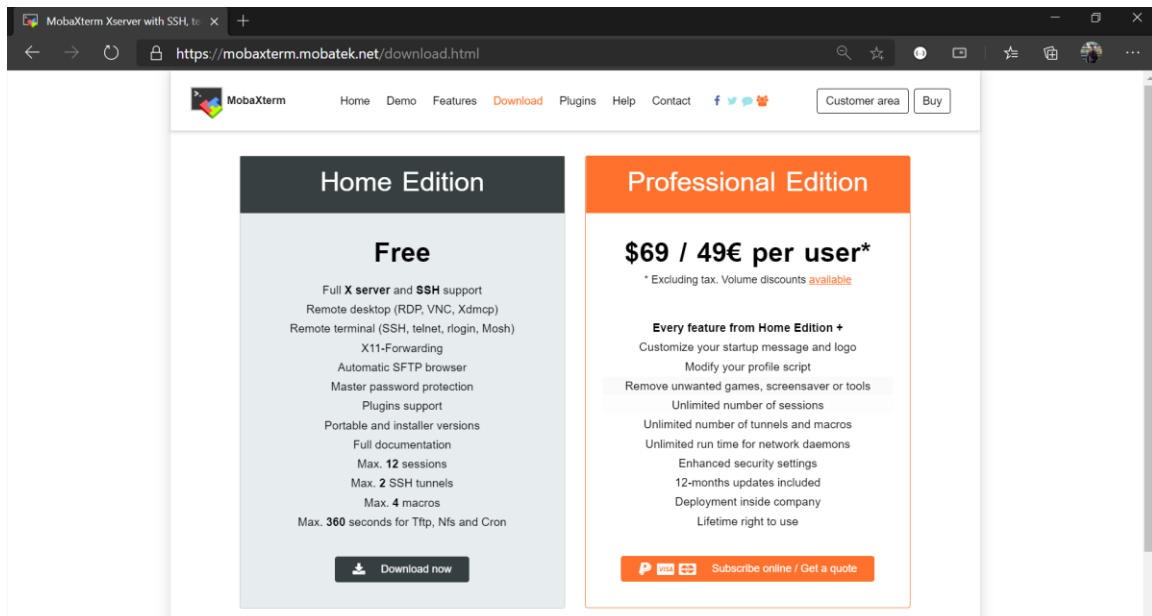

Figure 2-3 MobaXterm Download Page
2. At download page, click at "Download now" to go to home edition download page as shown in Figure 2-3.